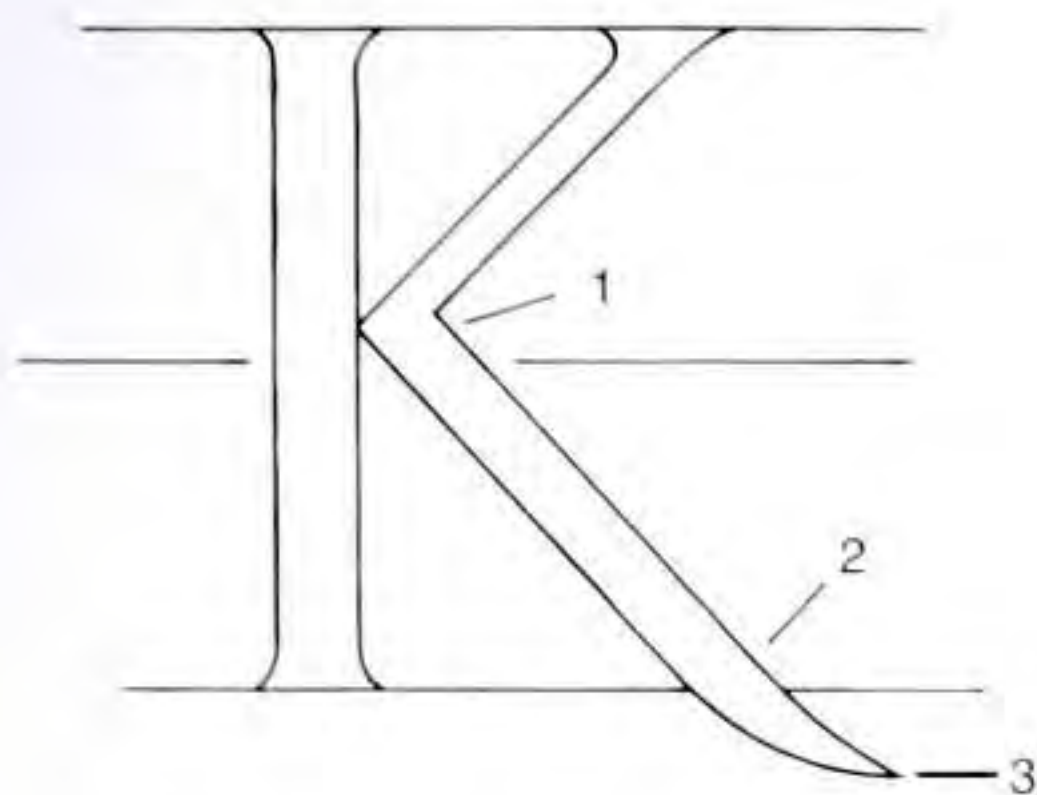

Fig 6.12 Features of the letter *K*.
See Fig 6.12. Like **B**, there is a natural symmetry around the mid-line of **K** which makes the junction appear too low. The junction should be raised a half unit above the mid-line to balance this effect and make the letter appear more stable (1).